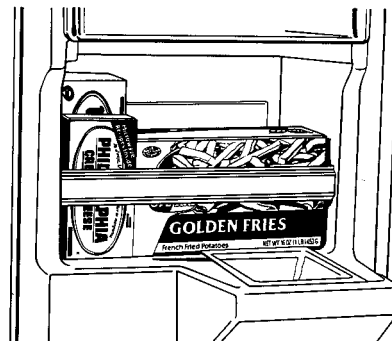
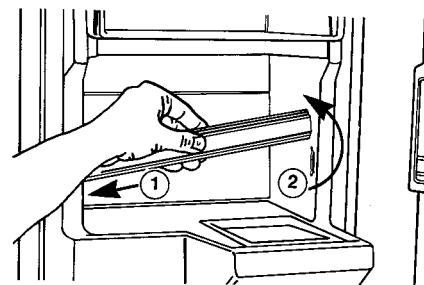

FIGURE 86
FIGURE 87
**Retainer Bar** is located above the ice chute. See Figure 86. The bar is removable for easy cleaning. Pull the bar left or right and up to remove. See Figure 87.